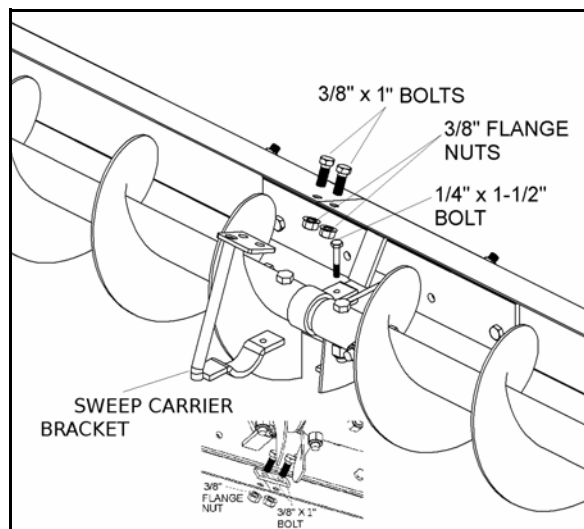

Figure 4.24
8. Attach the sweep carrier bracket to backboard using 3/8" x 1" bolts as shown in Figure 4.24.